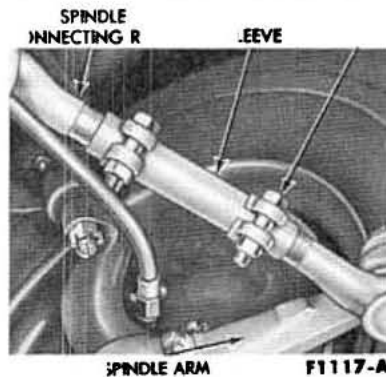

Fig. 88—Spindle Connecting Sleeve Clamp Position—Lincoln
4. Torque the adjusting sleeve clamp bolts to specification. To prevent interference, both bolts should be in a vertical position on the rear side of the sleeve and the clamps should not project beyond the ends of the sleeve (Fig. 88).